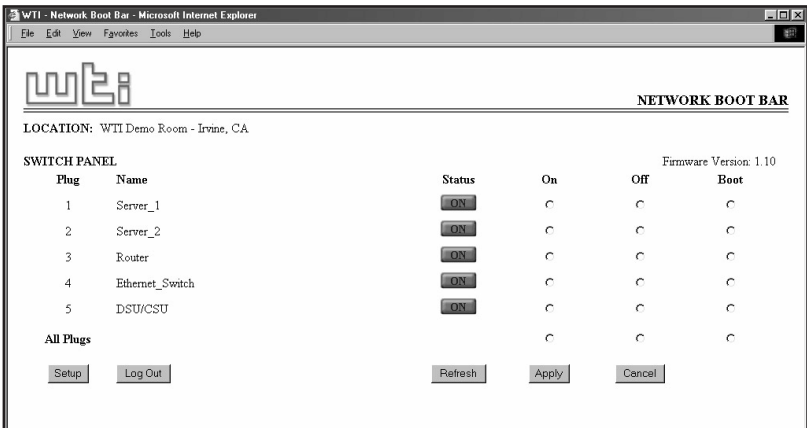

Figure 3.1: Plug Status Screen - Web Browser Interface
- a) **Web Browser Interface:** Start your JavaScript enabled Web Browser. Enter the NBB's default IP address (<http://192.168.168.168>) in your browser's address bar and then press **[Enter]**. A password prompt will be displayed. Since at this point, the user name and password have not yet been defined, you can simply click OK without keying in a user name or password. The NBB Plug Status Screen will be displayed as shown in Figure 3.1.